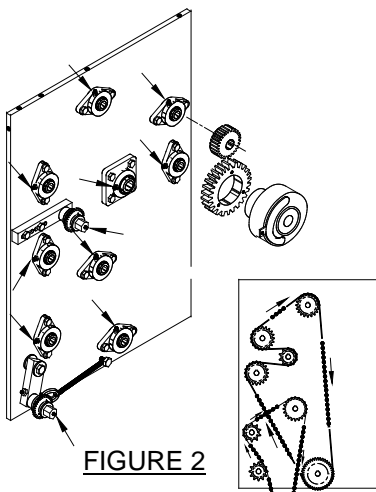

FIGURE 2
LOCATE THE LEFT SIDE OF THE MACHINE (FIGURE 2). THIS SIDE WILL HAVE TWO (2) DRIVE CHAINS. REPEAT THE ABOVE STEP FOR ALL FLANGE BEARINGS SINCE THEY ARE IDENTICAL TO THE RIGHT SIDE OF THE MACHINE. ONLY ON THIS SIDE THERE WILL BE TWO (2) MORE GREASE FITTINGS. ONE (1) COMING OFF (PART NO. K203RS) AND THE OTHER GREASE FITTING COMING OFF (PART # K104LS), THESE ARE BOTH TENSION BARS.